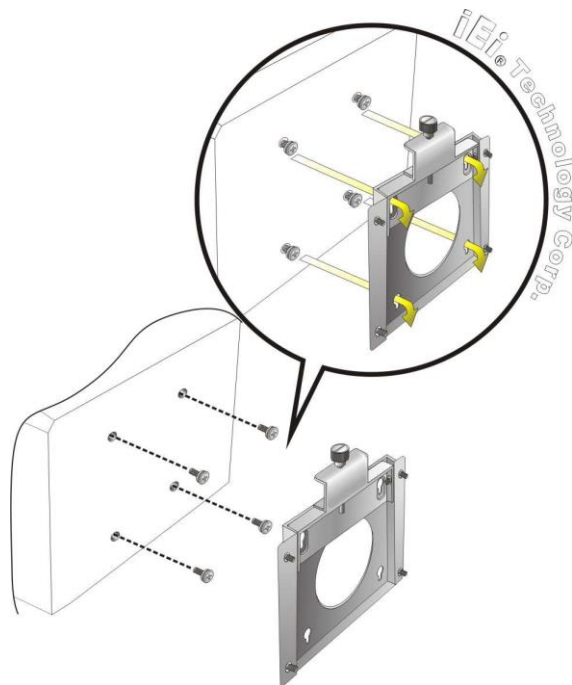

Figure 3-7: Chassis Support Screws
Step 6: Insert the four monitor mounting screws provided in the wall mount kit into the four screw holes on the rear panel of the flat bezel panel PC and tighten until the screw shank is secured against the rear panel (**Figure 3-7**).
Step 8: Carefully insert the screws through the holes and gently pull the monitor downwards until the monitor rests securely in the slotted holes (**Figure 3-7**). Ensure that all four of the mounting screws fit snugly into their respective slotted holes.